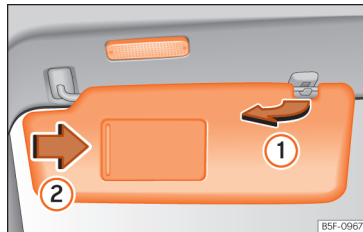

Fig. 90 Sun visor
- The sun visor can be pulled out of its mounting and turned towards the door »» Fig. 90 ①.